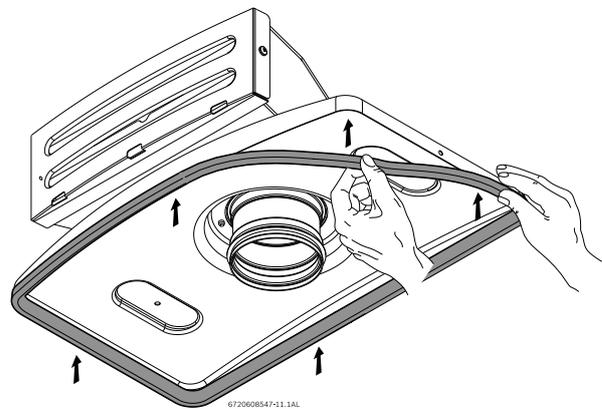

Fig. 5
- ▶ **3.** Attach the gasket provided with the kit as shown in Fig. 5.